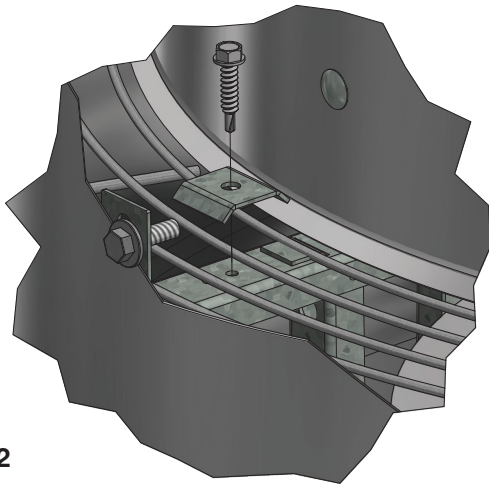
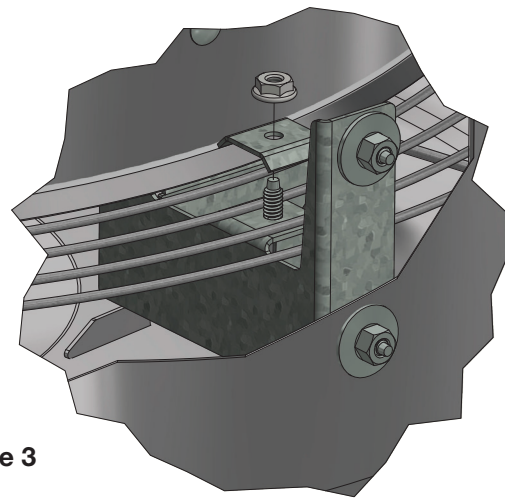

Figure 2
Figure 3
- Secure birdscreen with birdscreen clip and either a #12 x 1 inch self-drilling fastener (See Figure 2) or 1/4 inch flanged nut (See Figure 3) at each horizontal support location. Clip should cover at least 2 radial wires within the birdscreen provided.